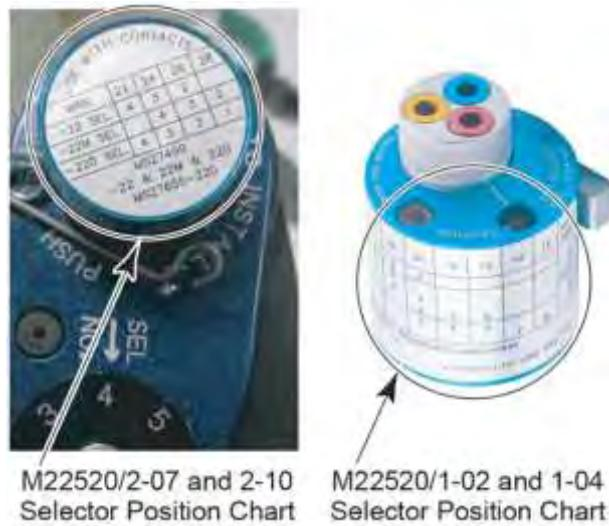

Figure 17
(17) Set the dial of the crimp tool (Figure 17) to the proper setting for wire gage and contact as noted on the contact position locator by lifting and rotating the selector knob. Ensure that the proper locator is used. See tooling table in the beginning of this section for tool and locator.